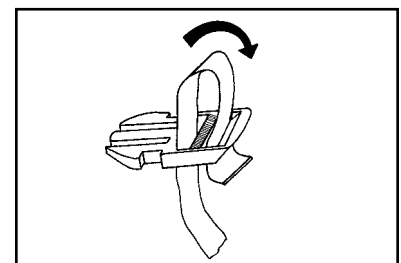

Figure 5
6. Attach the male half of the buckle to the free end of the strap as illustrated. (Figure 5)